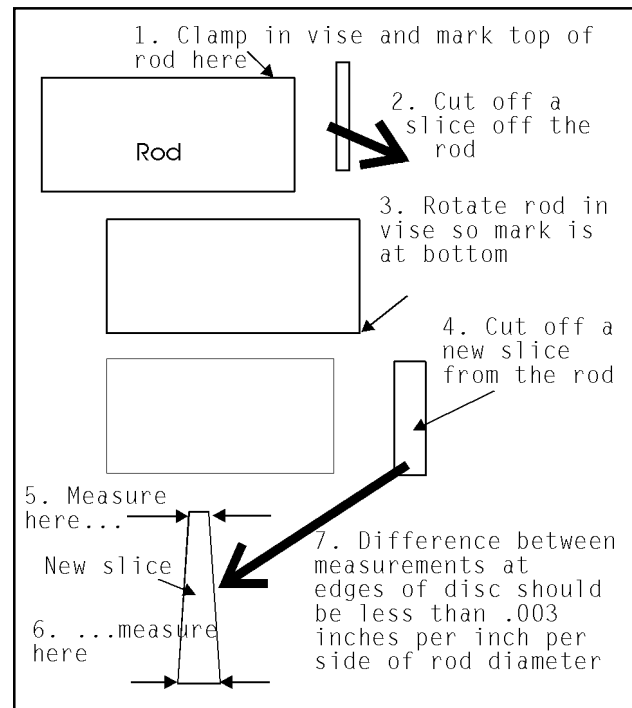

Figure 15: Step-by-step method to produce a test disc which can be measured for "wedge" - a measurement for testing cutting accuracy.
- With the bar stock securely clamped in the vise, make a cut through the bar stock. (See *Figure 15*.)